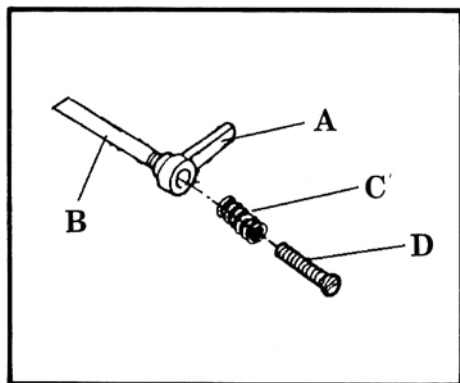

Figure 3
Referring to Figure 3:
14. Attach the headstock lock handle (A, Figure 3) to the head stock lock shaft (B) with one spring (C) and one hex socket cap screw (D).